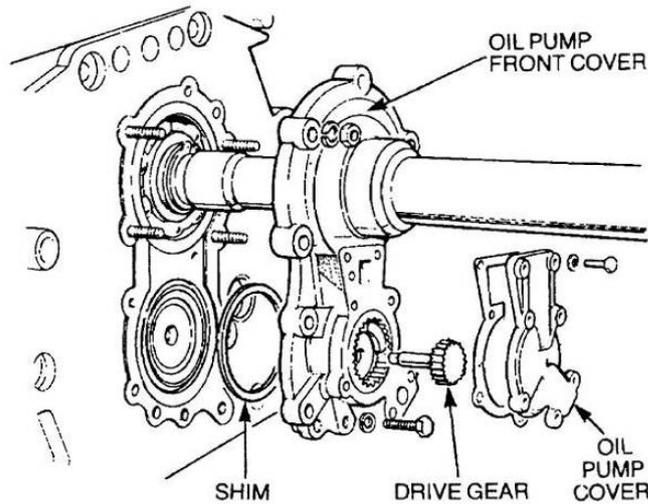

Figure 196 Installation of the Oil Pump Front Cover
- rr.** Ensuring that the selected shim (Para 65. n.) is installed on the countershaft front bearing, fit the oil pump front cover and a new gasket (Figure 196). Install the oil pump front cover retaining lock-washers, nuts and bolts, but do not tighten them at this stage.